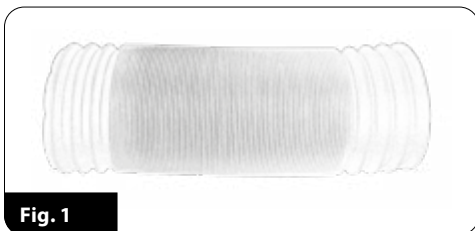

Fig. 1
2. Pull out the outer rims at both ends of the hot air exhaust duct (15), so that the equipment can be easily screwed together (Fig. 1).